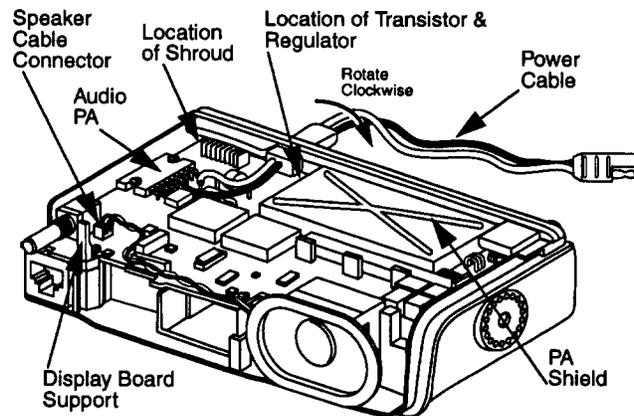

Figure 1-3. Position of Speaker Cable
2. Replace the 14 mounting screws and the display board support (refer to Figure 1-3) into the main board using a T10 Torx driver. Torque the 2 screws on the audio PA and the 2 screws on the transistor and regulator at 6-8 in-lbs. Torque the remaining 10 screws at 8-10 in-lbs.
The power cable should be routed around the components properly and gently pressed into position (Figure 1-3).
The speaker cable should be routed in front of the 10-position black header on the main board to prevent the housing's rear hook from dislodging and damaging the speaker connector when replacing the housing (Figure 1-3).